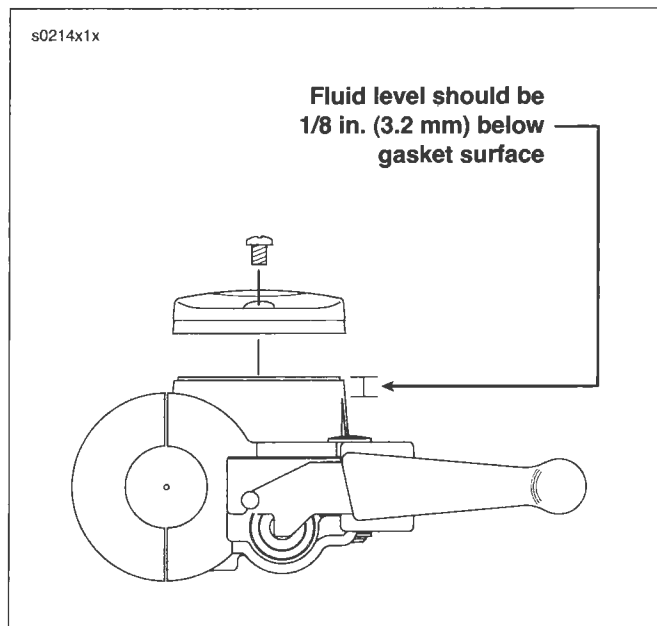

Figure 1-12. Front Brake Master Cylinder Reservoir
2. See Figure 1-12. Check level in front brake master cylinder reservoir. Level should be 1/8 in. (3.2 mm) below the gasket surface.